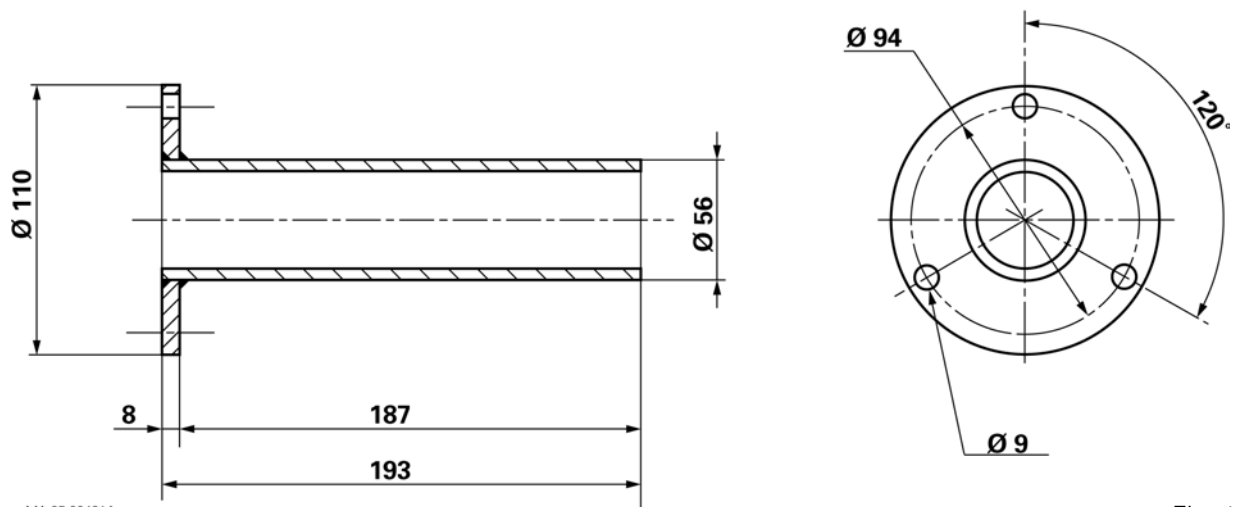

Fig. 10
- **Holding sleeve for the mainshaft** (Fig. 10)